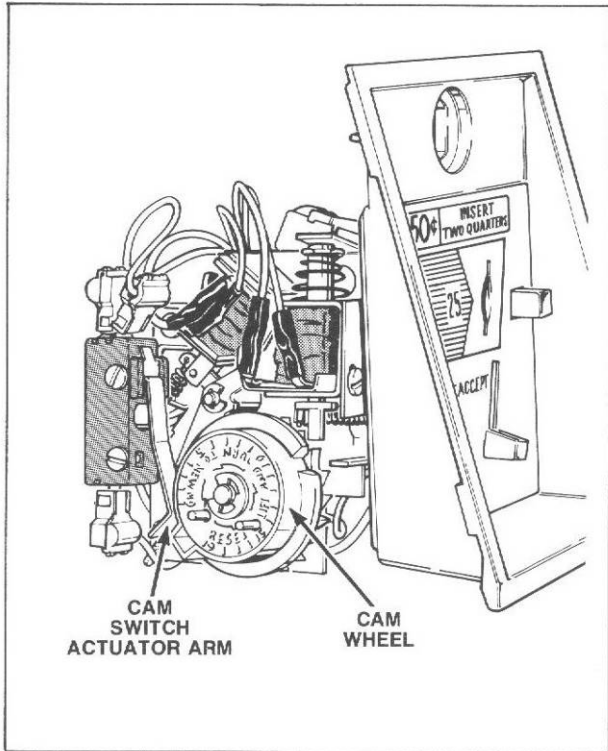

Figure 44
41. **ACCUMULATOR COIN DROP** (Refer to Figure 44)